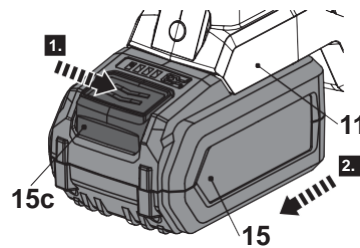

Fig. 6
2. To remove the battery pack (15), press down the release button (15c) (Fig. 6, step 1) and pull out the battery pack (15) from the battery docking port (11) (Fig. 6, step 2).